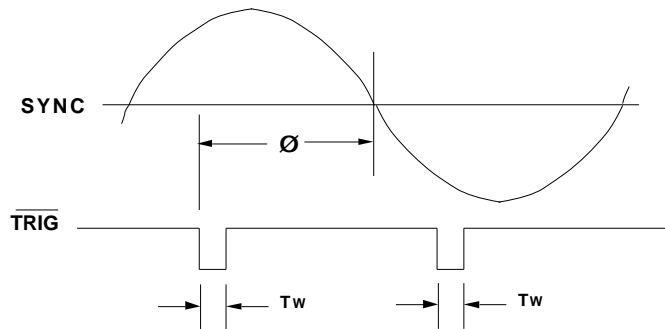

FIGURE 2.  $\overline{\text{TRIG}}$  OUTPUT CONDUCTION ANGLE,  $\emptyset$
LS7237 is a monolithic, MOS integrated circuit designed to control the brightness of an incandescent lamp. The output of the LS7237 triggers a triac connected in series with a lamp(See Figure 5). The lamp brightness is determined by controlling the output conduction angle (triac triggering angle) in relation to the AC line frequency (See Figure 2).
**TIMING CHARACTERISTICS** (See Figures 2 and 3):